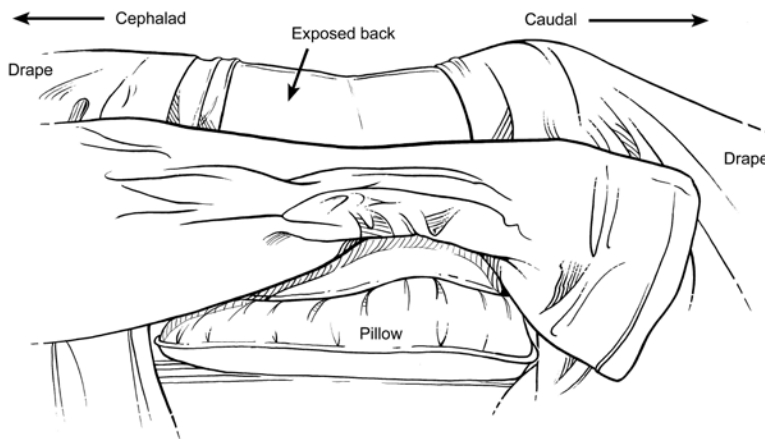

FIGURE 2
- 2 Perform skin prep and drape the patient using standard sterile technique (FIGURE 2).